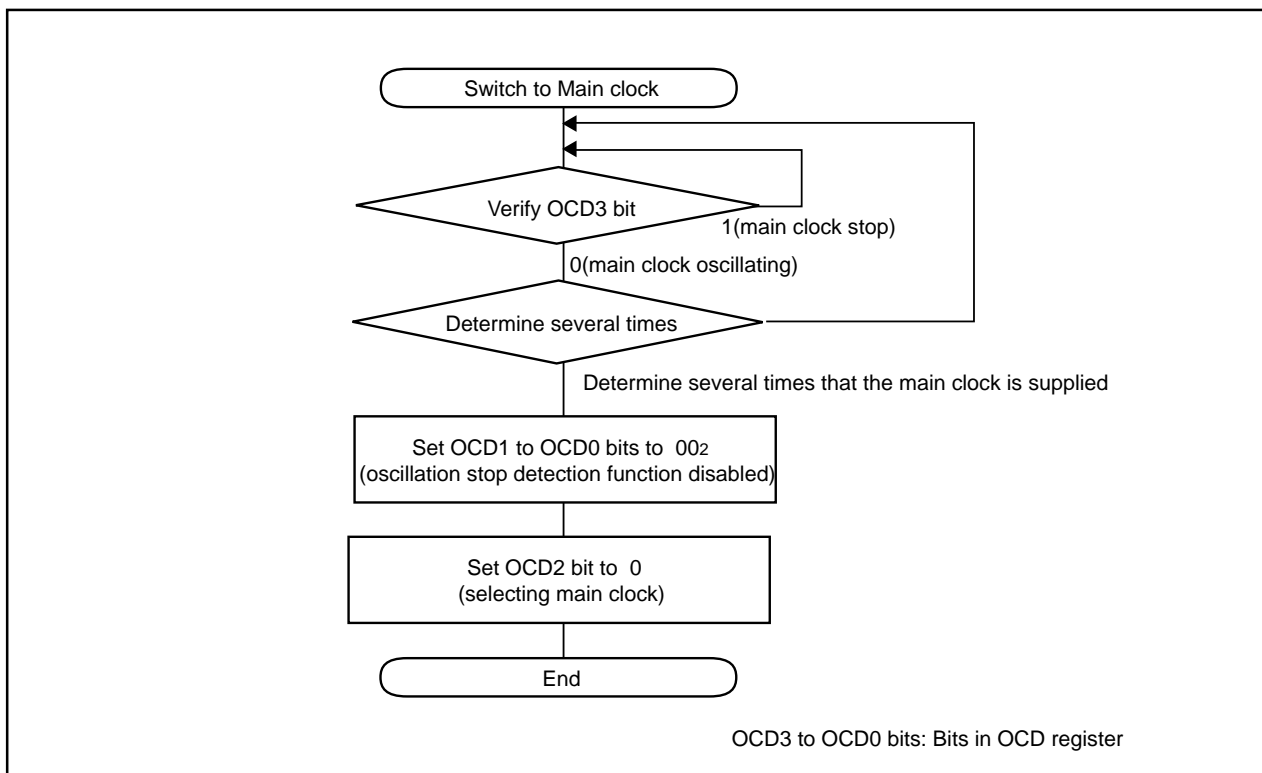

Figure 6.8 Switching Clock Source From Low-speed Ring Oscillator to Main Clock
- Where the main clock re-oscillated after oscillation stop, the clock source for the CPU clock and peripheral functions must be switched to the main clock in the program. Figure 6.8 shows the procedure for switching the clock source from the low-speed ring oscillator to the main clock.